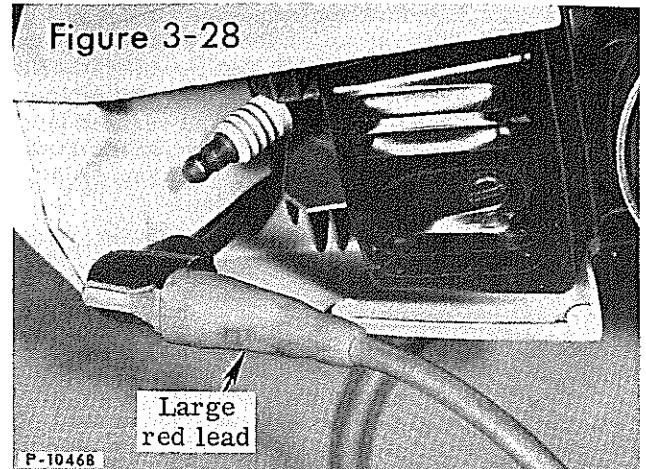

Figure 3-28
- With the Merc-O-Tronic tester disconnected from the 110 volt outlet, connect the large red lead to the spark plug wire connector and the small black lead to ground (Figure 3-28).